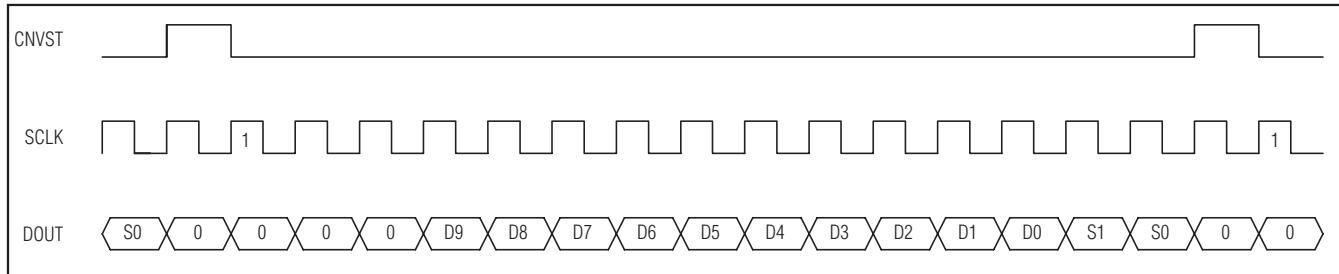

Figure 17. DSP Interface—Continuous Conversion
The MAX1072/MAX1075 can also be connected to the TMS320C54_ by using the data transmit (DX) pin to drive CNVST and the CLKX generated internally to drive SCLK. A pullup resistor is required on the CNVST signal to keep it high when DX goes high impedance and 0001hex should be written to the DXR continuously for continuous conversions. The power-down modes may be entered by writing 00FFhex to the DXR (see Figures 17 and 18).
ters should be configured for late framing ($\text{LAFR} = 1$) and for an active-low frame ($\text{LTFS} = 1$, $\text{LRFS} = 1$) signal. This is also the best way to enter the power-down modes by setting the word length to 8 bits ($\text{SLEN} = 1001$). Connect the V_L pin to the ADSP21 $_$ $_$ supply voltage when the MAX1072/MAX1075 are operating with a supply voltage higher than the DSP supply voltage (see Figures 17 and 18).